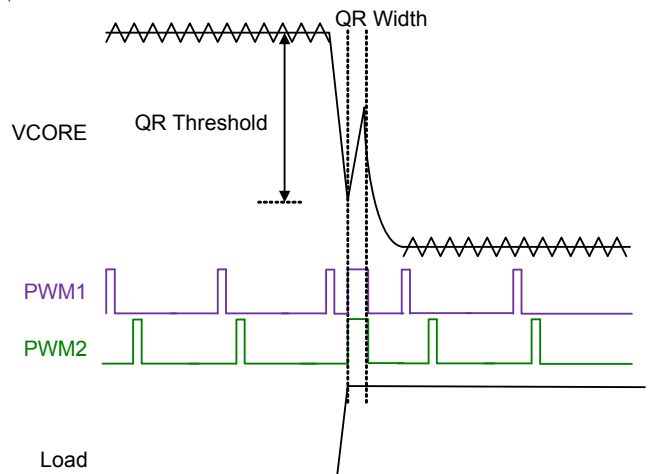
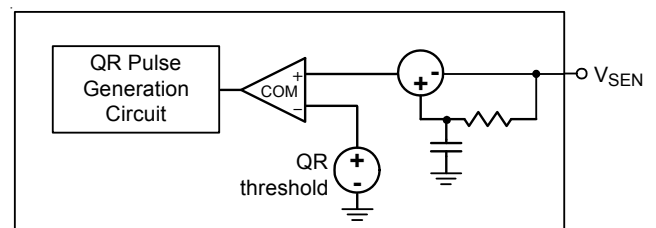

Figure 25. Quick Response Mechanism
Figure 26. Simplified QR Trigger schematic
When the transient load step-up becomes quite large, it is difficult for loop response to meet the energy transfer. Hence, that output voltage generate undershoot to fail specification. The RT3602AH has Quick Response (QR) mechanism being able to improve this issue. It adopts a nonlinear control mechanism which can disable interleaving function and simultaneously turn on all UGATE one pulse at instantaneous step-up transient load to restrain the output voltage drooping. Figure 25 shows the QR behavior.
The output voltage signal behavior needs to be detected so that QR mechanism can be triggered. The output voltage signal is via a remote sense line to connect at the VSEN pin which is shown in Figure 26. The QR mechanism needs to set QR width and QR threshold. Both definitions are shown in Figure 25. A proper QR mechanism set can meet different applications. The SET1 and SET2 pins can set QR threshold and QR width by internal current source 80 μ A with multi-function pin setting mechanism for MAIN and AUX1 VR rails. Table 2 shows the QR_TH and QR_WIDTH for MAIN and AXUI VR rails on the SET[1 to 2] pins.